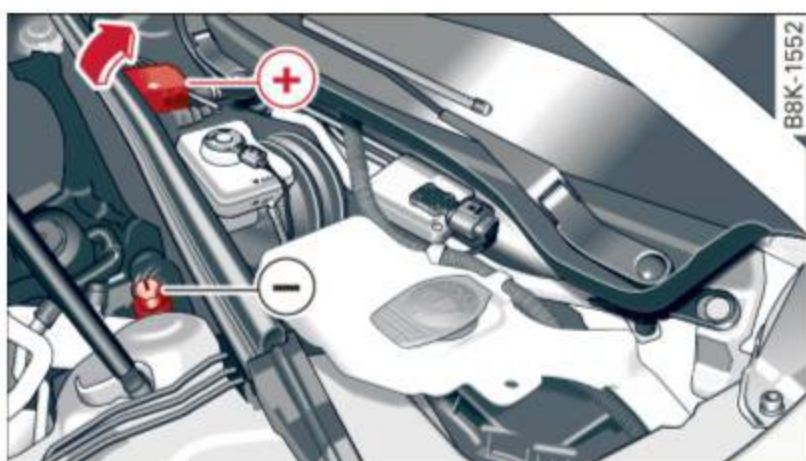

Fig. 166 Engine compartment: Connectors for charger and jumper cables
- ▶ Open the cover on the positive pole ⇒ fig. 166.